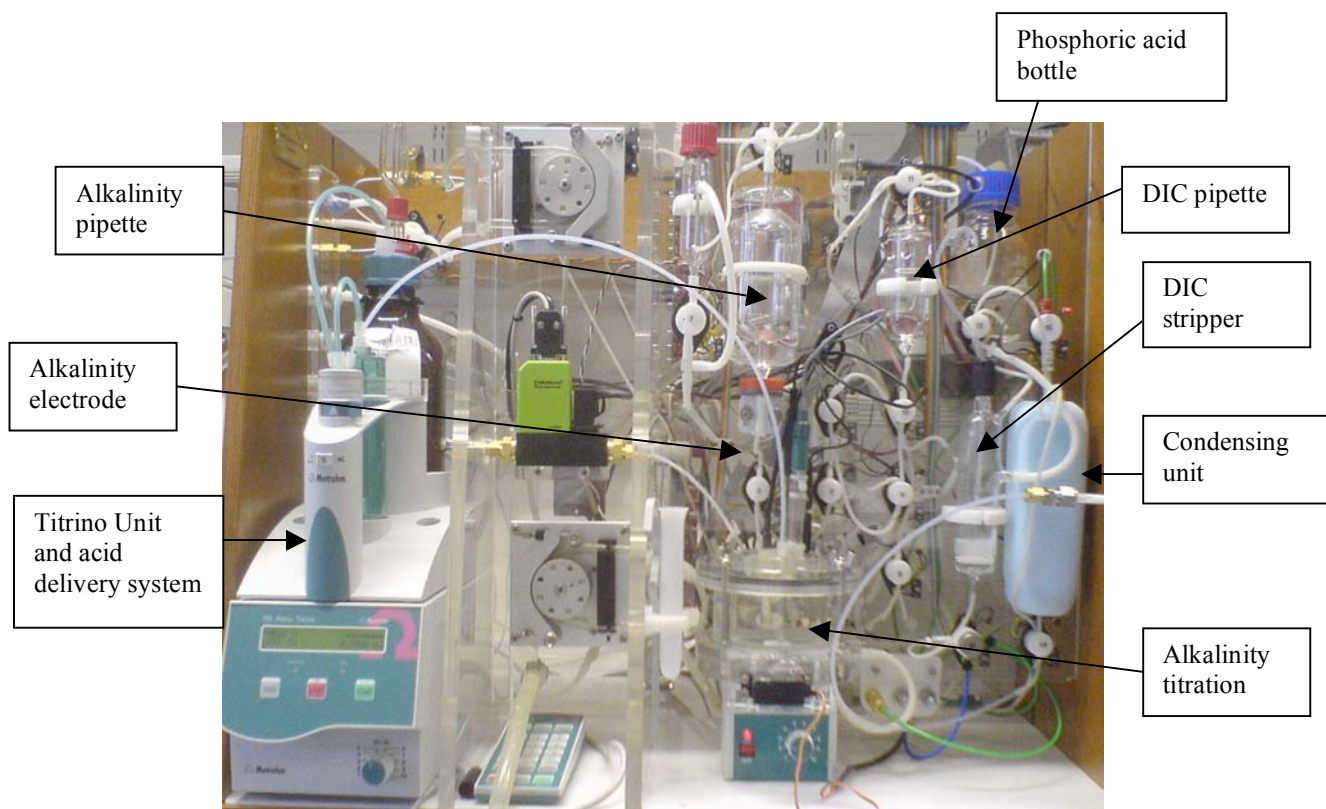

Figure 1.1 The VINDTA instrument with key components labelled
- 2) Once water is circulating turn on Peltier cooler at the top of the unit (this is a box towards the back of the instrument. The peltier cools the condenser to remove water from gas coming out of the stripper (Figure 1.1). Check the temperature occasionally as it cools. To do this, the digital thermometer display must be switched on to give a digital reading. The display unit runs on a battery so it must be switched off when not in use. The battery is a 9V square battery (there are spares). The temperature should go down to $<5^{\circ}\text{C}$.